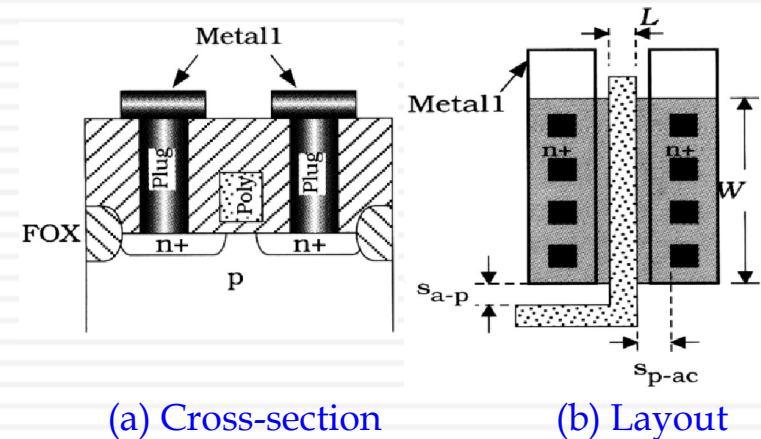

Figure 5.15 Drain and source FET terminals using Metall
- ❑ Metal I allows access to the active regions of MOSFETs using the Active Contact oxide cut as Figure 5.15